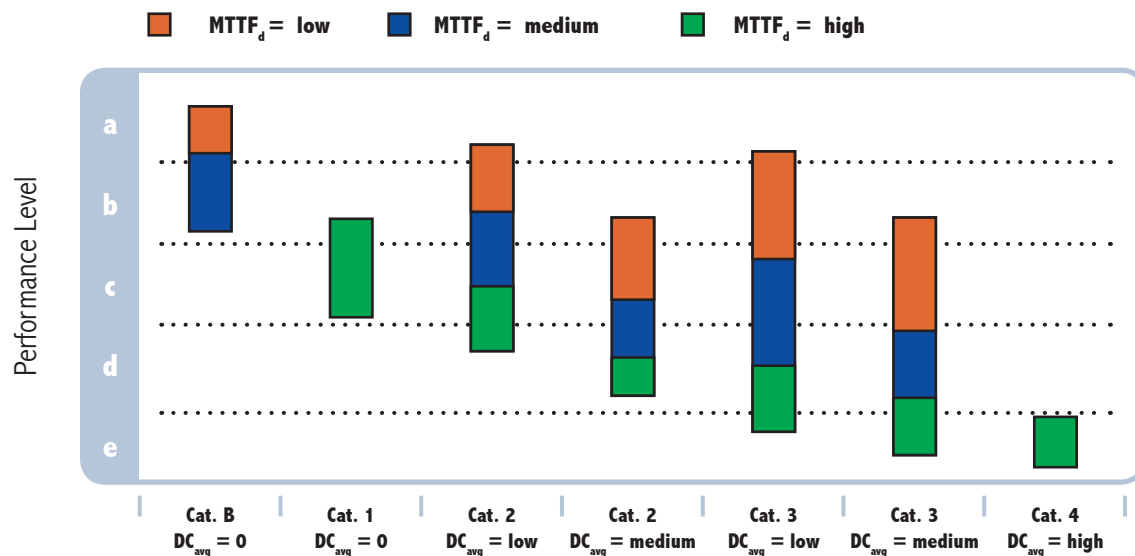

Fig. 6 - figure of ISO 13849-1
- In the case of new software, adopting all organisational aspects of V-type development model shown in Figure 6 of the Standard ISO 13849-1 and meeting development requirements for applications and built-in SW.